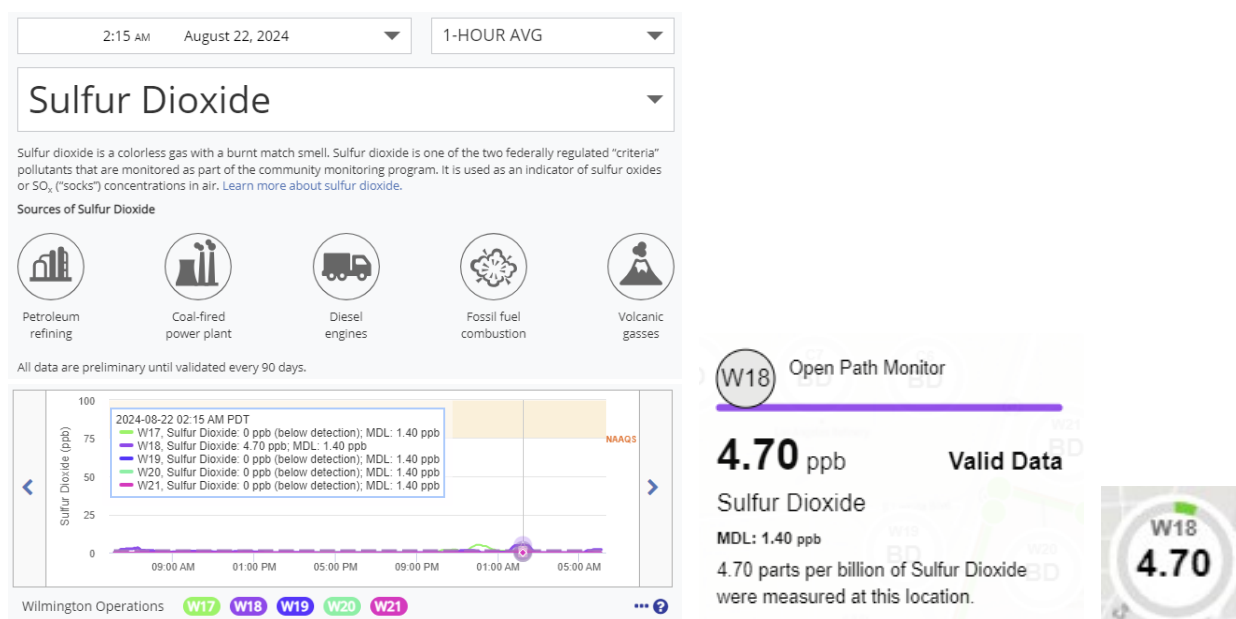

Figure 2: Example of valid detections as displayed on the public website.
Valid detections (e.g. QC=0, OP=0) are shown on the website (Figure 2). Concentrations are reported as recorded by the analyzer, with numeric values shown in the time series detail panel (left), the map detail panel (middle), and the map marker (right). For valid detections with concentrations below the MDL (e.g. QC=0, OP=17), numeric values are shown but data are flagged as “Below Detection” (BD). For hourly data only, the outer ring of the map marker visualizes the concentration relative to an hourly threshold, with green indicating values below the threshold and orange indicating values above the threshold.